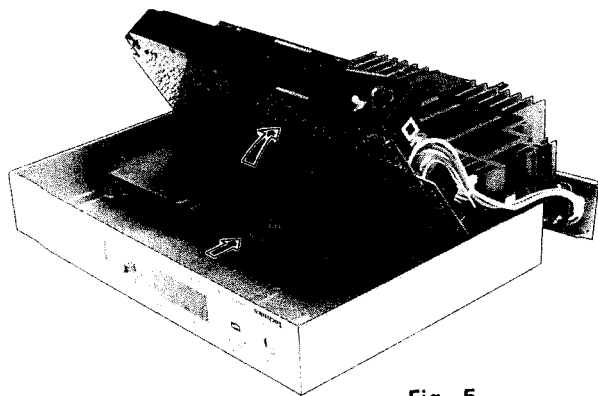

Fig. 5
6. Hold the heat sink and pull it backward. Then, the cabinet can be removed from the printed circuit board along with the heat sink. (Refer to Fig. 5)